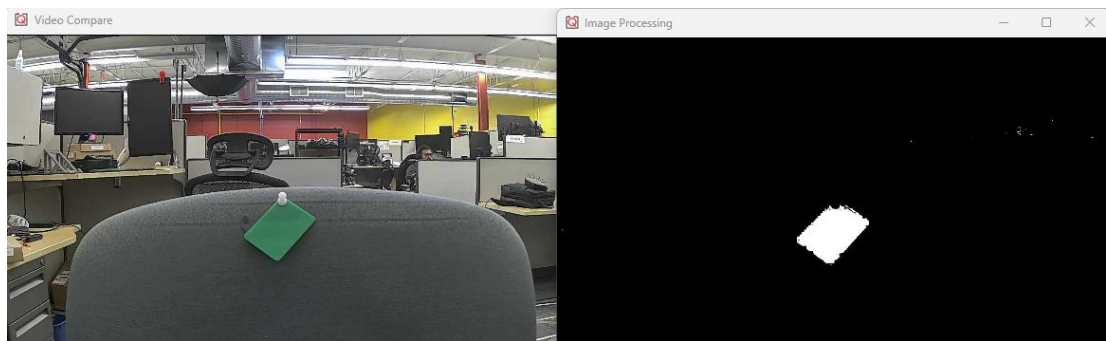

Figure 3. Successfully Tracking a Green Object
- c. Max S & V Range: Adjusts the maximum saturation and value. You want your object selection to look like Figure 3.